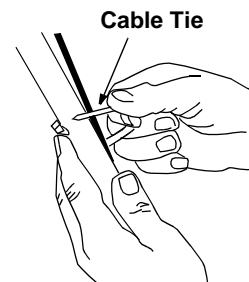

Figure 4
- Attach control cable to the lower handle with the cable tie already on the lower handle. Pull tight the cable tie and cut off extra. See Figure 4.